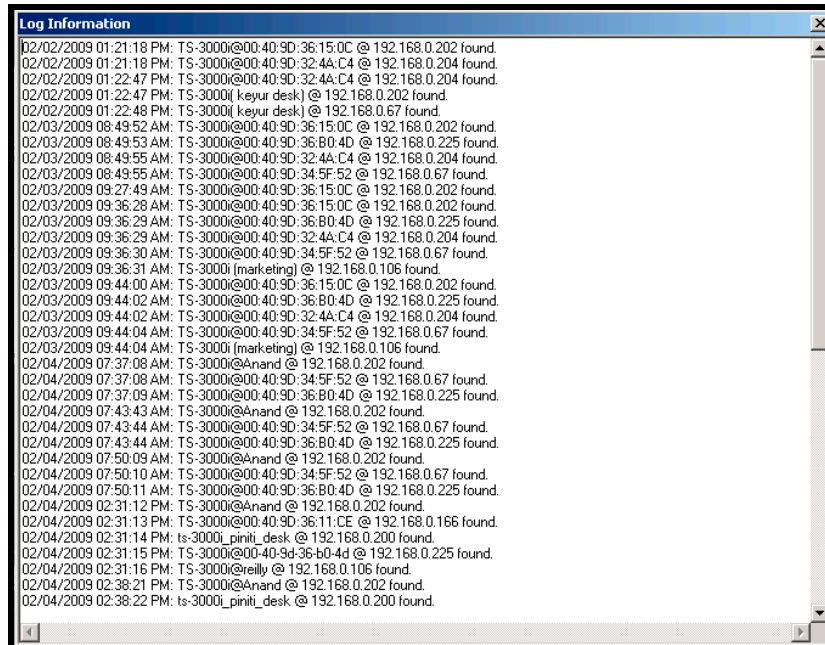

Figure 5-18: View Utility Log Information
- **Log** – Use this function to view a continuous log of TS-3000i Utility functions (see Figure 5-18) from the **ts-3000i_Util.log** file. The log is arranged in ascending order by date.